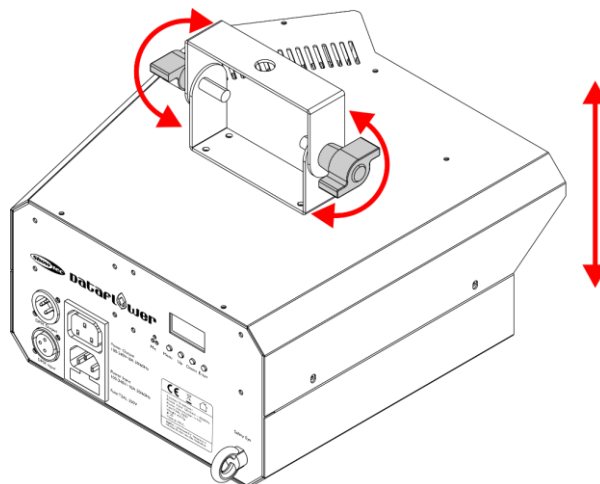

Fig. 07
- 01) Turn the **adjustment screws (02)** counterclockwise to release them.
- 02) Tilt the device at the desired angle (see Fig. 07).
- 03) Turn the **adjustment screws (02)** clockwise to tighten them. Make sure that the device cannot move freely after the **adjustment screws (02)** are tightened.